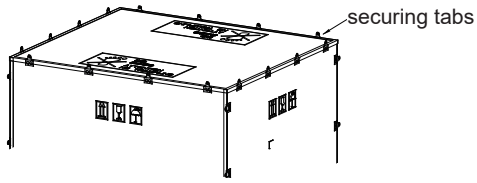
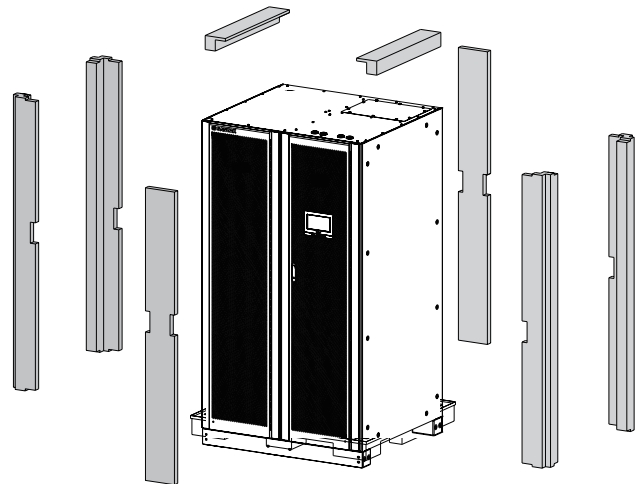

Figure 4-1: Straighten the Securing Tabs
Figure 4-3: Remove Cushioning
3. Use a hammer to pry open the metal connection components around the wooden box, remove the wooden box, cushioning materials and moisture-proof bag (Figure 4-1 ~ Figure 4-3).